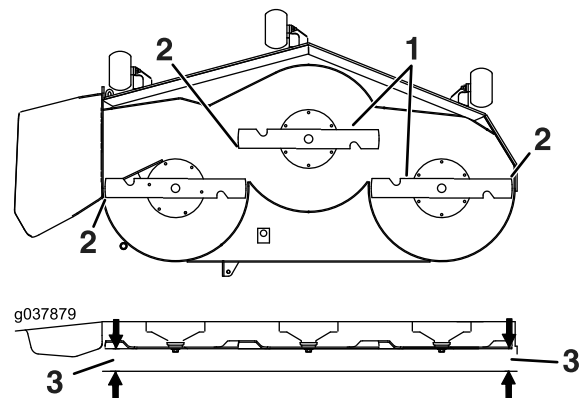

Figure 98
6. Measure between the blade tip and the flat surface (Figure 98). If both measurements are not within 5 mm (3/16 inch), adjust the leveling; continue with this procedure.
14. Carefully rotate the blades side to side (Figure 98).